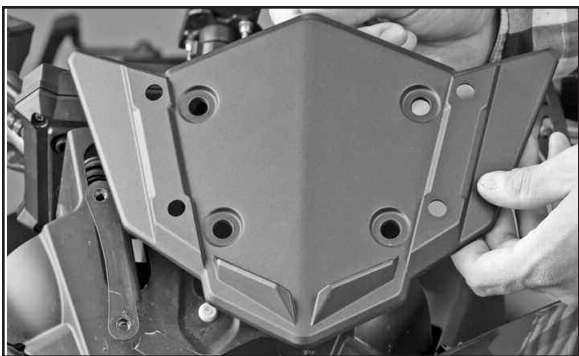

Figure 1
3. Remove the 4, M6 bolts (yamaha part number 90111-06029-00) holding the OEM plastic frame into place. Remove plastic frame and lay flat on a table. Frame will be re-used. (**4mm Hex Key**) **Figure 1**